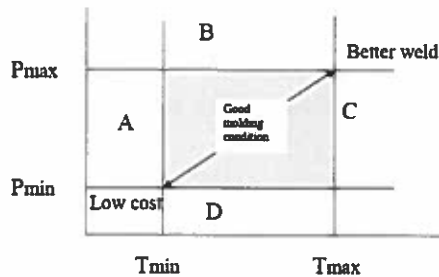

Figure 2. Processing window for injection molding.
- To adjust for the flash, you randomly turned the knobs on the machine and created various defects with respect to the melt temperature and injection pressure. Using the processing window, shown in Figure 2, describe the different defects that you observed in regions A, B, C and D and explain how you would correct or eliminate them.